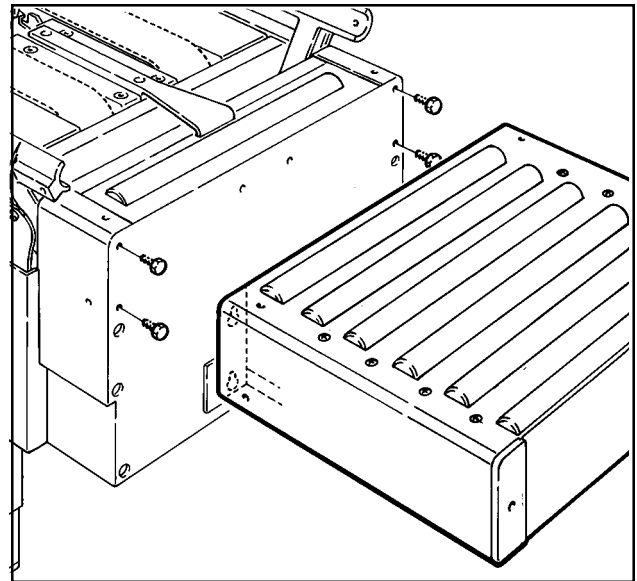

Figure 2-2 – Infeed Conveyor
3. To assemble the infeed conveyor, refer to Figure 2-2 and locate four bolt holes on the infeed end of the case sealer frame.